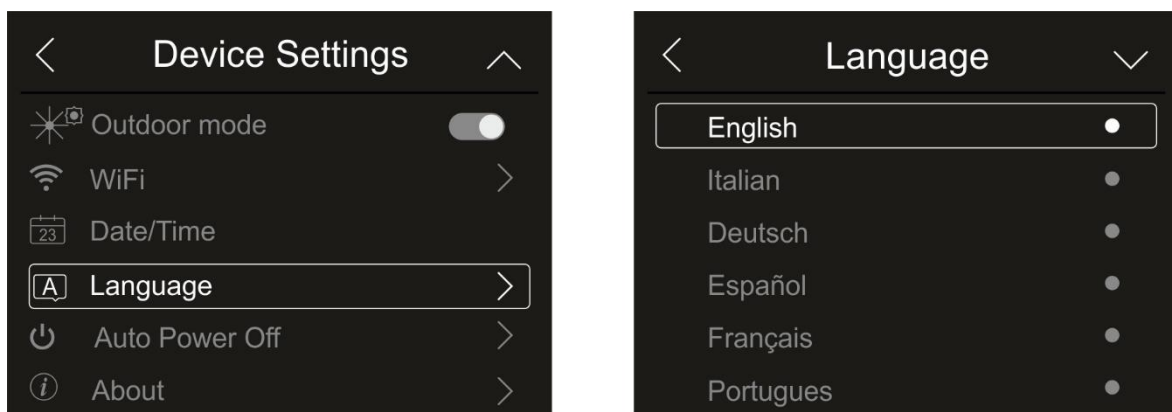

Fig. 20: System language setting
1. Touch the item “Language” to set the system's Language. The screen in Fig. 20 – right side appears on the display: